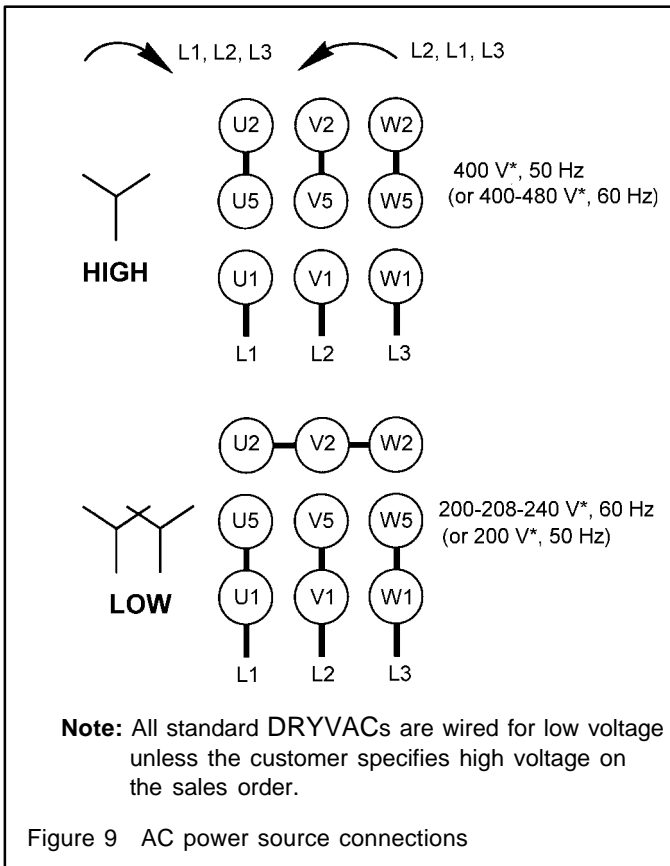

Figure 9 AC power source connections
2. Change the connections on the motor terminal block (Figure 9) to match the applied AC line voltage and frequency.